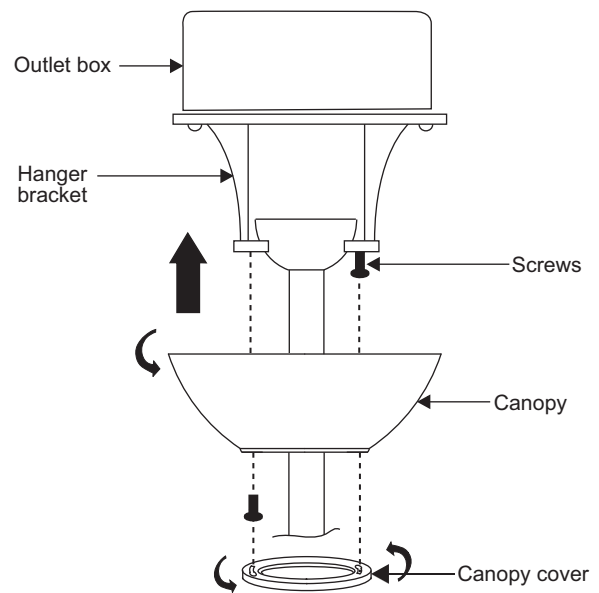

Figure 11
Step 2. Slide the canopy up to hanger bracket and place the key hole on the canopy over the screw on the hanger bracket, turn canopy until it locks in place at the narrow section of the key holes. (Fig. 11)
Step 3. Align the circular hole on canopy with the remaining hole on the hanger bracket, secure by tightening the two set screws. (Fig. 11)